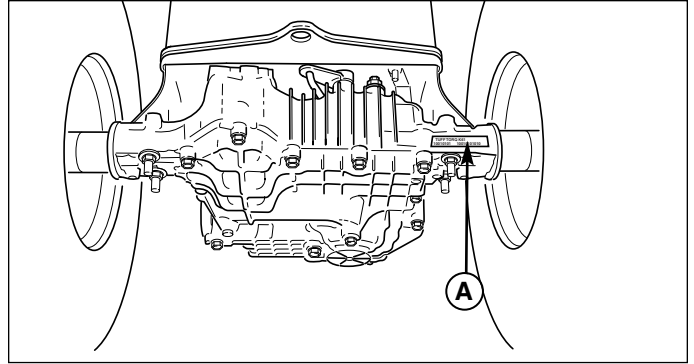

Figure 30. Transmission ID Tag Location
- 54" Mowers:** Remove the capscrew (D, Figure 30), spring washer (C), spline washer (B), and blade.
- 54" Mowers:** Reinstall the spline washer (B, Figure 30), spring washer (C) and capscrew (D). Use a wooden block (A) to prevent blade rotation while tightening the capscrew (D) to 61-75 Nm (45-55 ft-lbs).
Several service procedures within this book are identified by, and vary by, transmission type. To determine what transmission is in your tractor, check the identification tag attached to the axle of the transmission (Figure 30), or check your tractor's parts book.